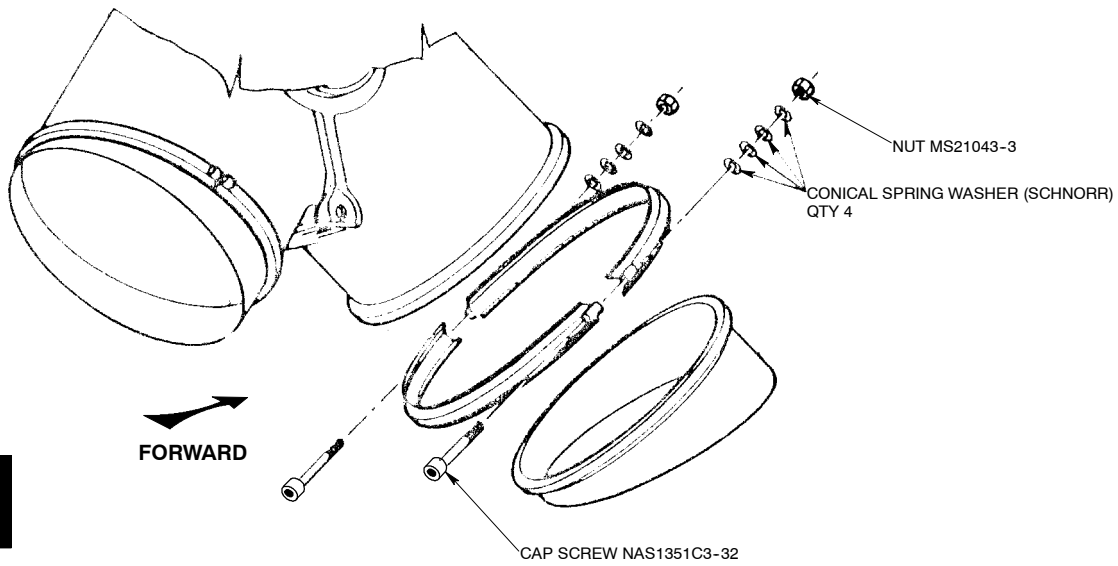
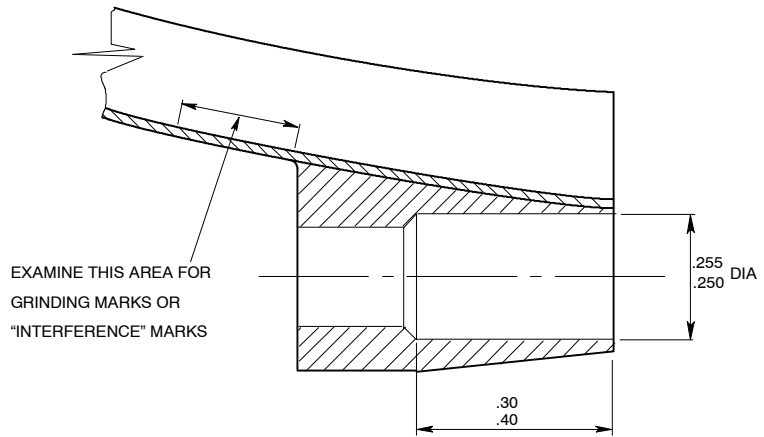

Figure 1 Exhaust Nozzle Clamp Installation
Figure 2 Clamp and Rework
- (1) Open lower cowl.
- (2) Refer to Fig 1 and remove the exhaust stub nozzle half-clamps and stub nozzles from the engine.
- (3) Discard existing bolts, nuts and plain washers, retain conical spring washers.
- (4) Dye penetrant inspect each half-clamp PN 1/N-50-548 in the vicinity of the welds for evidence of cracking. Any cracking is cause for rejection. Examine welds and the area shown on Fig 2 for evidence of grinding and/or "interference" marks. Any grinding marks which result in a loss of clamp thickness are a cause for rejection, other marks may be dressed using a round needle file to remove burrs and sharp corners.
- (5) Inspect half-clamp pairs for evidence of misalignment of bolt holes or any obvious distortion as follows:
- (c) If the bolt will not pass through the bolt hole and there is obvious distortion of the half-clamp ends, reject the half-clamp/s. If the bolt will not pass through the bolthole and there is NO obvious distortion of the half-clamp ends, turn a half-clamp 180° and re-check. If it will still not pass through, counterbore the half-clamp ends per Fig 2 and re-check.